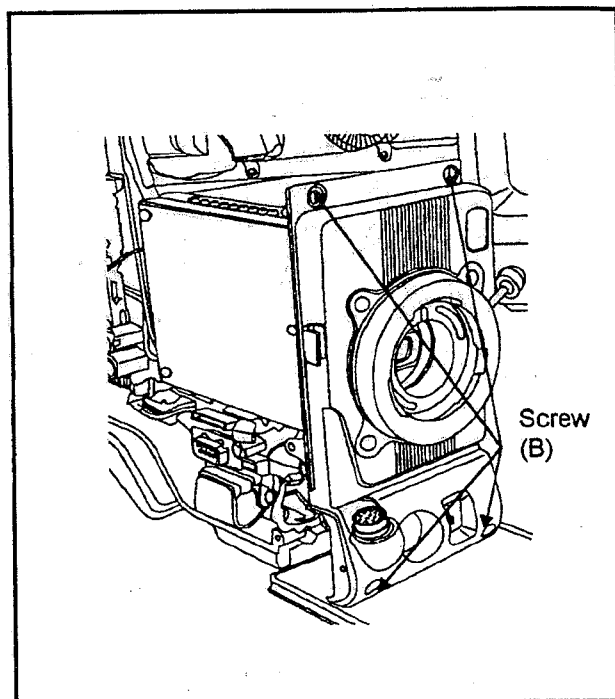

Fig. CCD2
4. Unscrews (B) on Front panel and carefully pull the Front panel unit with camera block out to front direction. (Fig. CCD2)